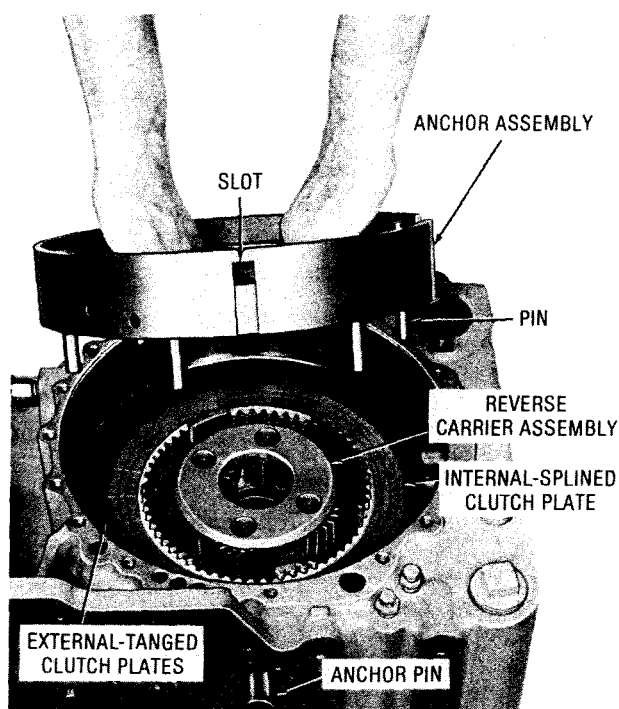

Fig. 7-49. Installing forward-and-reverse clutch anchor assembly (TRT-3)
(4) Align the slots of the five reverse, external-tanged clutch plates to receive the pins in the clutch anchor assembly (fig. 7-49). Install the clutch anchor pin into the control valve mounting pad on the left side of the transmission housing. Aligning the anchor pin slot with the clutch anchor pin hole within the transmission housing, install the forward-
(5) Push the clutch anchor pin into the slot in the forward-and-reverse clutch anchor assembly (fig. 7-49). Temporarily install a 3/8-16 x 1-inch bolt and a flat washer to retain the anchor pin during subsequent assembly operations (refer to fig. 7-17).
(6) For TRT 2221-3, 2421-3 with overdrive, proceed to paragraph 7-9b. For TRT 2221-3, 2421-3 with underdrive, proceed to paragraph 7-9e. For TRT 2211-3, 2411-3 models, proceed to paragraph 7-9h.